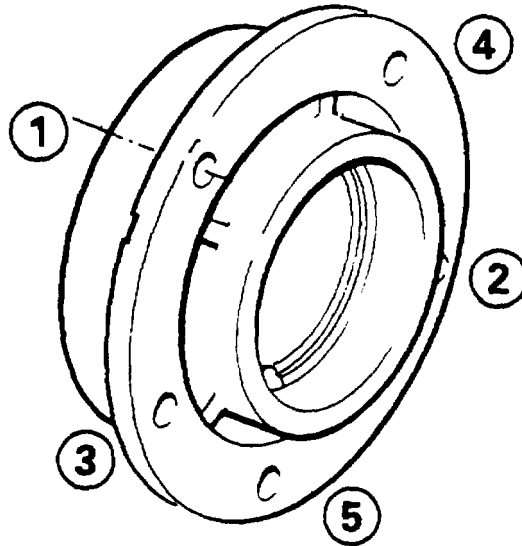

FIGURE 3-42. Bearing Housing Capscrew Tightening Sequence
- d. Position housing (3) with shim (4) on crankcase and secure with five capscrews (2). Tighten capscrews to 240 in-lbs (27.2 Nm) in sequence shown in FIGURE 3-42.